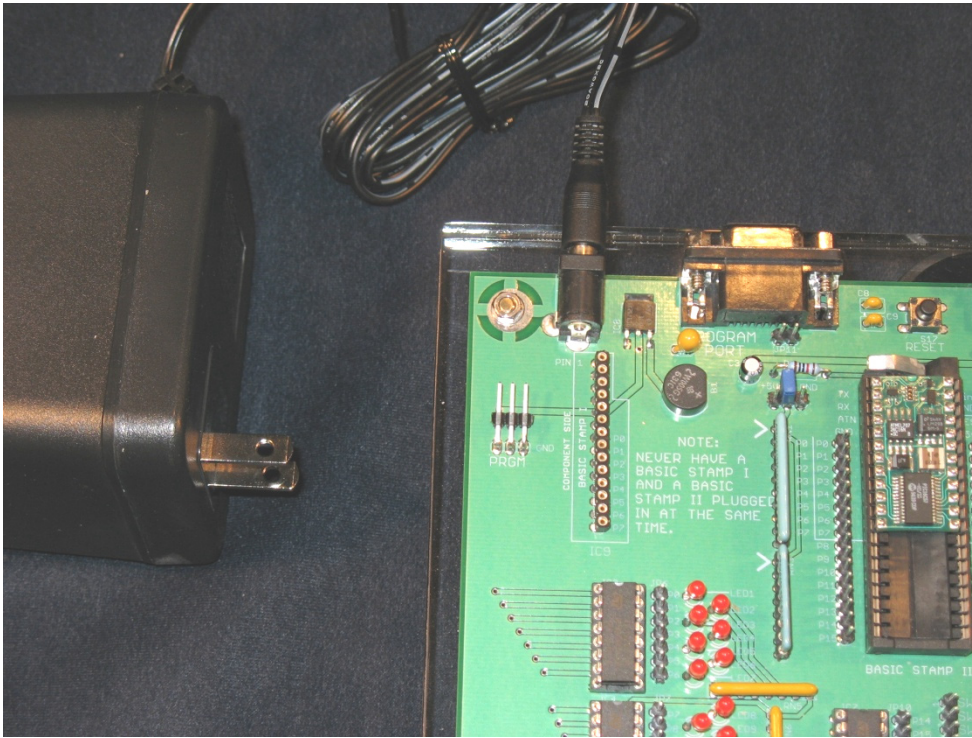

Figure 5. Connecting Power
- **Connecting Power:** Apply 12 volts DC to the power jack in the upper left corner of the printed circuit board. The power jack on the board can use either polarity. See Figure 5.